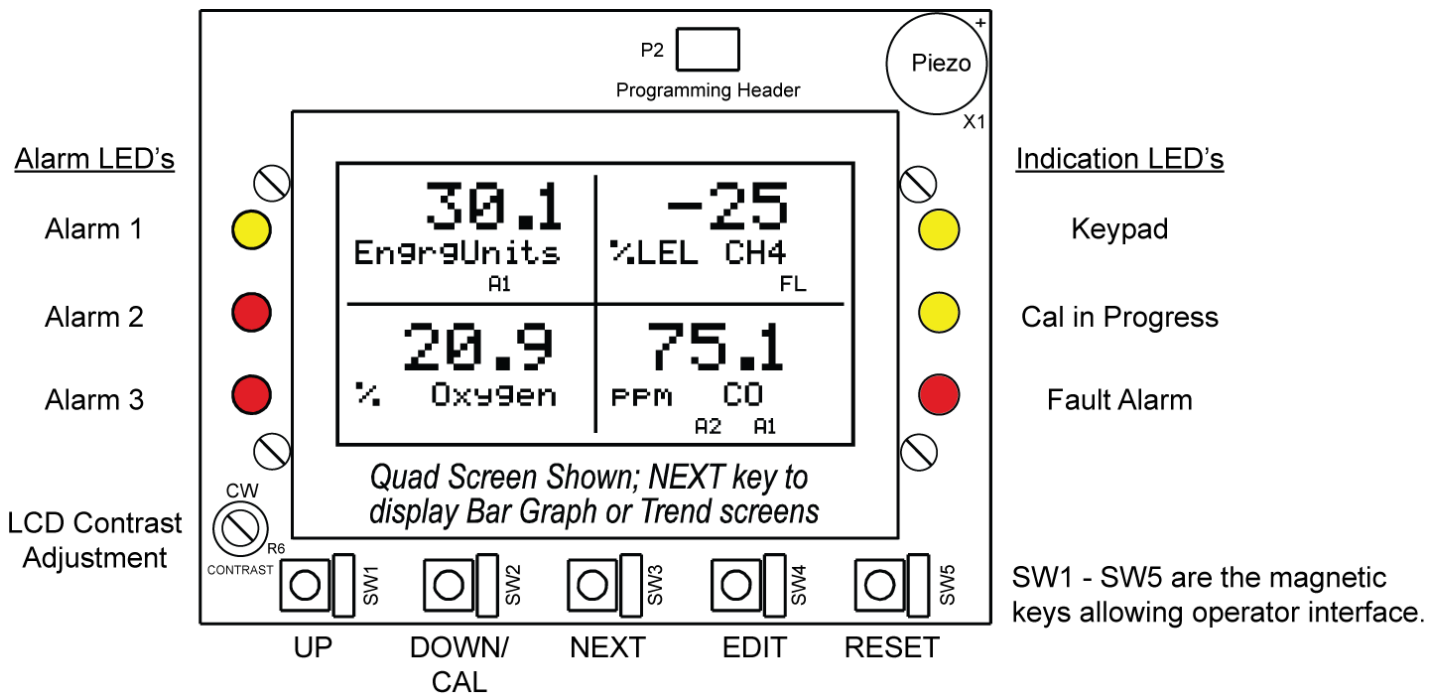

Figure 2-4. Internal Display Assembly
- **TB3** - 24 VDC universal output power supply with up to 350mA available to power optional remote devices such as alarms, horns, lights, relays, etc. 24VDC is only outputted when AC power is available to the 7400 Plus. Refer to Figure 2-4 for distribution of AC and DC power.
Refer to Figure 2-4.